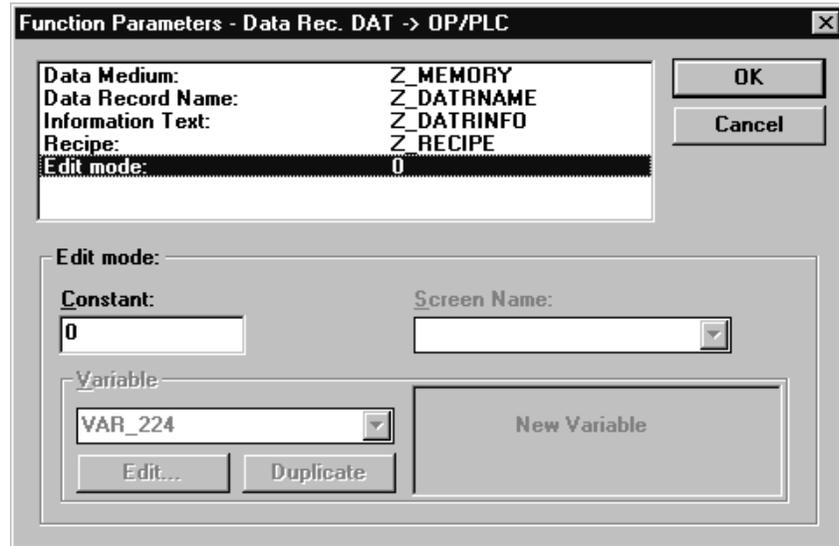

Figure 9-4 Assigning Parameters for the DAT → OP/PLC Function
- Click *Parameters* and assign the parameters as described below. In doing so, always choose the variable specified under *Variable*. Figure 9-4 shows the dialog box with the parameters.